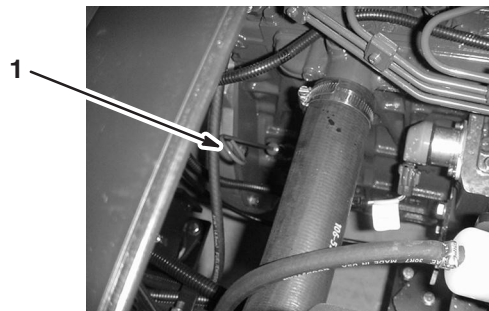

Figure 2
2. Remove the dipstick, located under the passenger seat, and wipe it with a clean rag (Fig. 2).